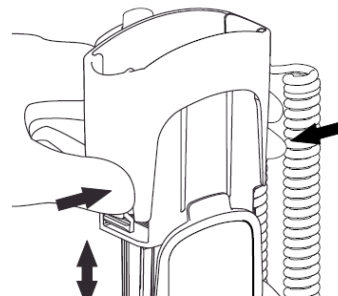

Figure 65: Removing Isolation Chamber
- 1) To remove or replace any isolation temperature Isolation Chamber / Probe assembly, grasp the Isolation Chamber from each side (refer to Figure 65).
- 1) To change Temp Probes, remove the Isolation Chamber as described previously (refer to Figure 65).